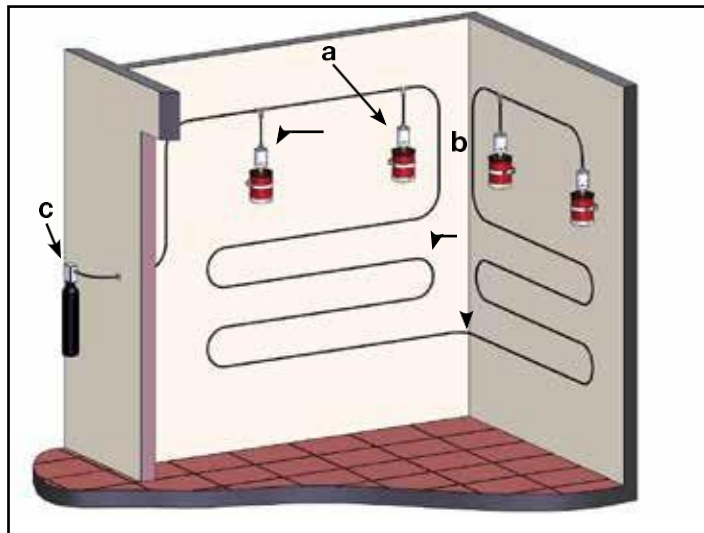

Fig 2: Basic system layout
- One or more Dyameco-PA01 extinguishing generators (fig 2 a)
- A sensor hose system of a length and layout appropriate to the application (fig 2 b)
- A pressure accumulator unit for adjusting and maintaining the system pressure (fig 2 c)